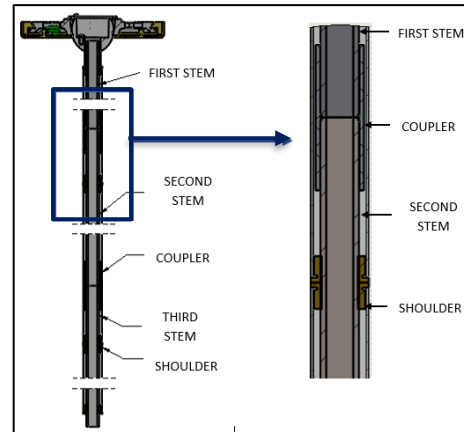

FIG. 14 – DETAIL SHOWING STEM
4. Attach the STEMS based upon the length required using COUPLER and SHOULDER as shown in FIG. 14. Use thread locker on all stem connections and fully tighten stem sections together.